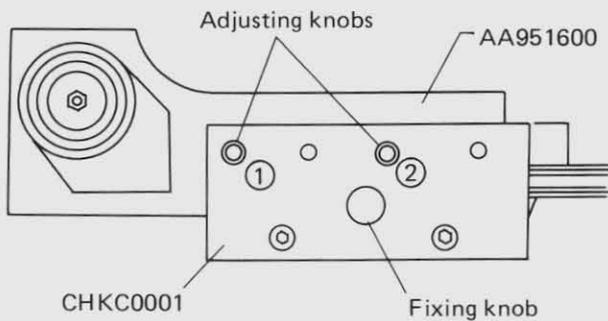

Fig. 11-21
- b) Aligning threaded holes (1) & (2) of the Jig and Specimen holder Main body, clamp 2 Adjusting knobs. (See Fig. 11-21)